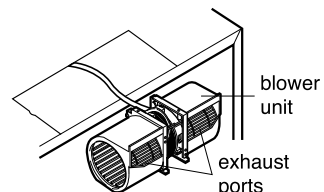

Figure 14
4. Rotate the unit so that the exhaust ports face the rear of the cabinet. See Figure 14. When you insert blower unit, blower wire must be like figure 14.